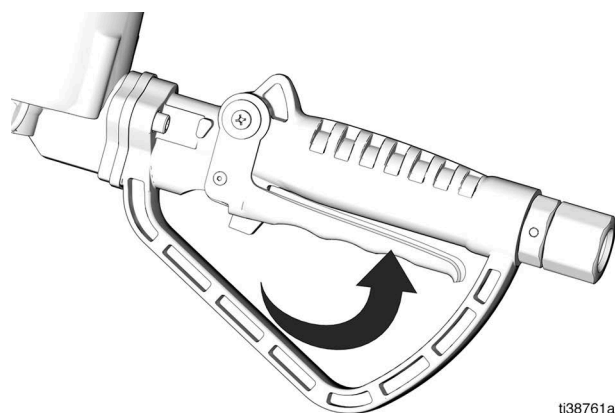
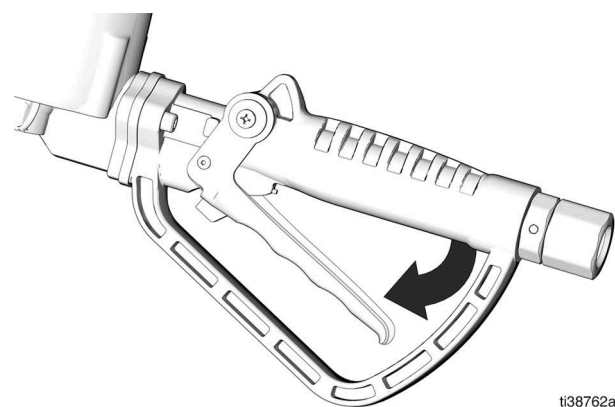

FIG. 6
FIG. 7
8. To stop dispensing before the Preset amount is reached, release the trigger latch by pulling the trigger toward the valve body, and releasing the trigger (FIG. 6 and FIG. 7).